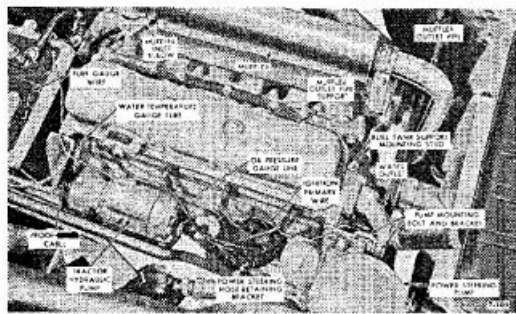
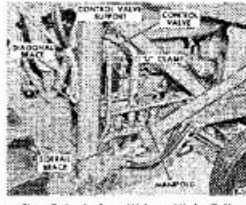

Figure 6—Top View of Engine
Figure 7—Loader Control Valve and Hydraulic Lines
10. Disconnect the water temperature gauge tube from the right side of the cylinder block, see Figure 6.
- a. Remove the three bolts and lock washers that attach the control valve to the control valve support, see Figure 7. Remove the two bolts and lock washers that attach the control valve support to the cylinder block. Remove the "U" clamp that attaches the support to the line tube mounting bracket and remove the support.
Figure 2: Engine Removal and Installation - Top View. This image shows a page from Section 2 of the manual, focusing on engine removal and installation for Series 1801. It features 'Figure 6 - Top View of Engine' detailing components like the air cleaner, fuel lines, and radiator hoses. Additionally, 'Figure 7 - Loader Control Valve and Hydraulic Lines' provides a diagram and instructions for servicing the loader control valve, including steps for disconnecting and removing associated bolts and lines.